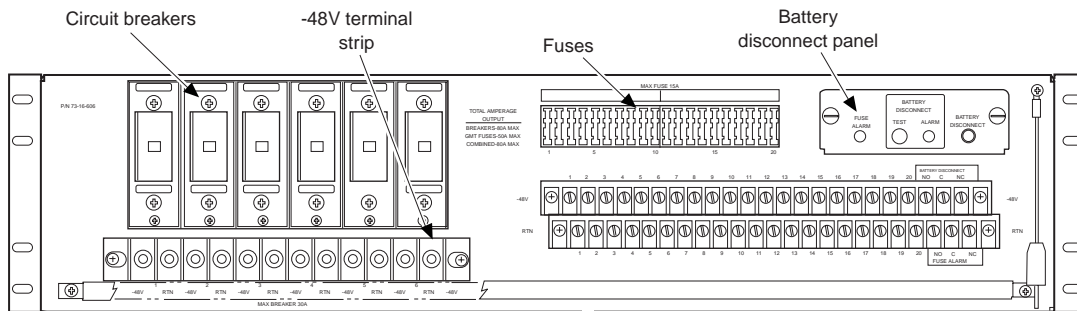

Figure 36. DC Distribution Panel Controls and Indicators
The DC Distribution Panel (Figure 36 and Table 5) distributes the DC power used, and:
- 1 At the DC Distribution Panel, ensure that all circuit breakers are set to OFF. The panel is located in bay No. 2, below the rectifier shelf as shown in Figure 36 on page 42.